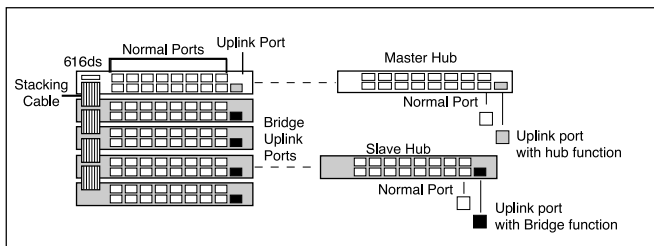

Figure 3-2 Master and Slave hubs in stacking ALH-616ds.
- The hub will be divided into Master and Slave hubs when they are stacked together. The upper most hub is the Master hub, and other hubs are Slave hubs. The Master hub continues to use the built-in switch but the switch in the Slave hubs will be disabled. The Slave hubs will provide a uplink port with bridge functional(so called Bridge Uplink Port) that utilizes the first connection port as well, as in Figure 3-2.